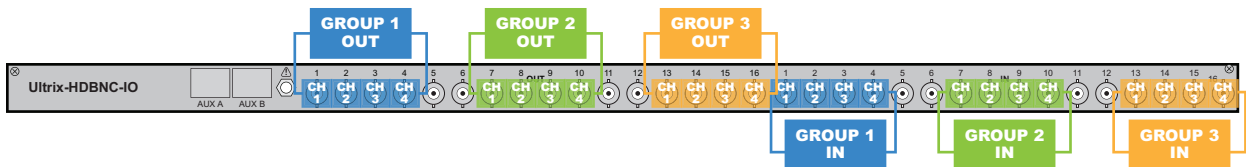

Figure 25 Example of Gearbox Mapping on a Single Ultrix-HDBNC-IO Blade
**Figure 25** illustrates the connections allocated for Gearbox groups on an ULTRIX-HDBNC-IO blade.
**Figure 25** illustrates the connections allocated for Gearbox groups on the ULTRIX-HDX-IO blade.